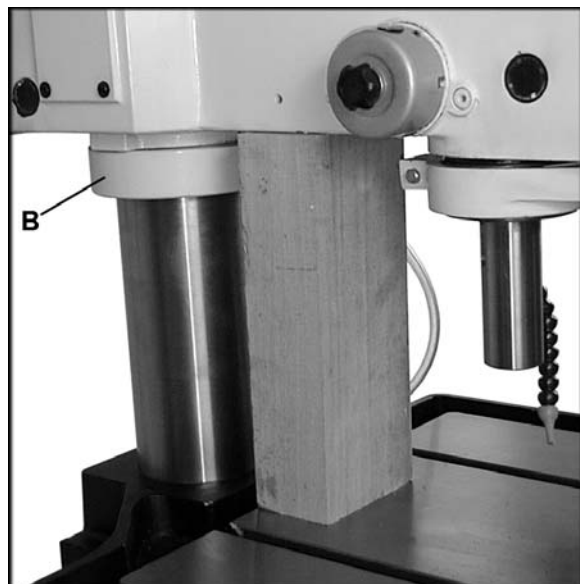
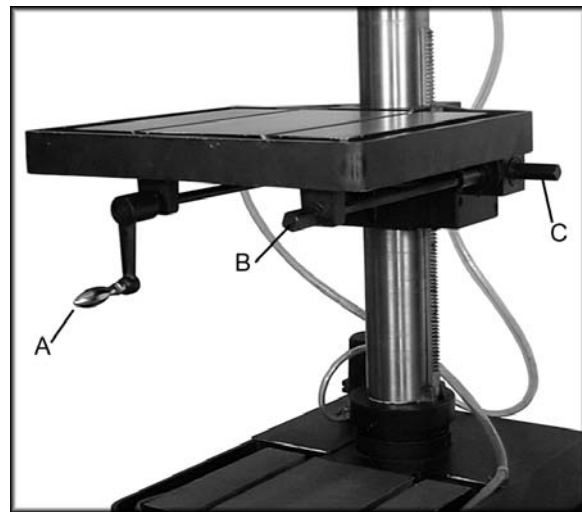
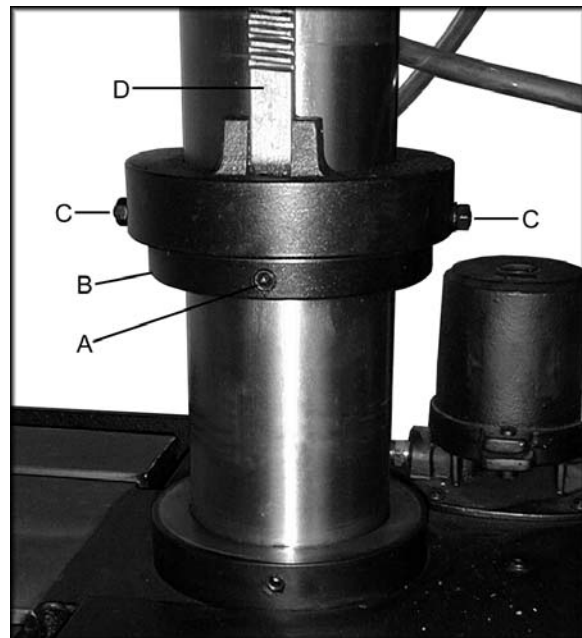

Figure 6
Figure 7
Figure 8
3. Loosen the table lock by placing the handle on the crankshaft (A, Fig. 7) and rotating the handle counter-clockwise
5. Raise the table by placing handle on crankshaft (B or C, Figure 7) and rotating clockwise. Snug the 2x4 between the table and the head as close to the column as possible. **Caution:** Do not place the 2x4 under the lock collar (B, Fig. 6).
6. Use the table lift crank on a shaft (B or C, Fig. 7) to raise the head and 2x4 until the head bore and the column are flush. **CAUTION:** When the head bore and the column cap are flush, the head cannot be raised anymore. Use a ladder to observe the column through the top of the belt cover.
1. Tighten the table lock handle (A, Fig. 7).
2. Loosen two set screws (A, Fig. 8) on the column bearing collar (B, Fig. 8). **Caution:** Do not loosen the two setscrews with lock nuts (C, Fig. 8).
3. Raise the rack (D, Fig. 8) by placing the handle on crankshaft (refer to B or C, Fig. 7) and rotating clockwise to the desired level.
4. Tighten the two set screws (A, Fig. 8) to keep the rack in position.
1. Loosen the table lock handle (A, Fig. 7).